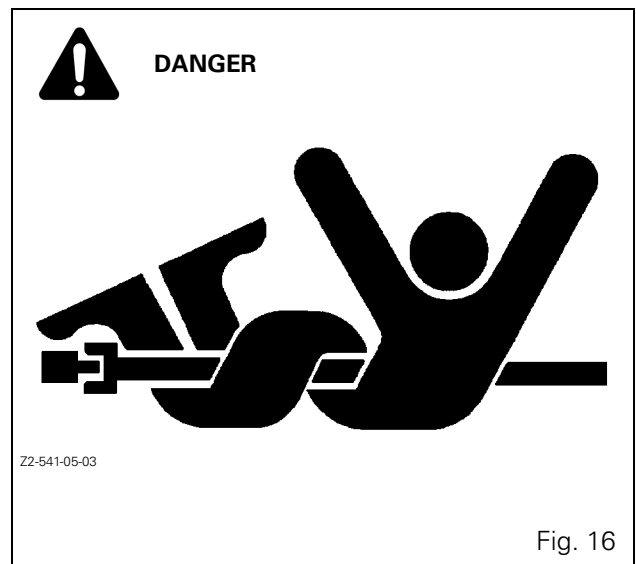

Fig. 16
- Ensure that all the PTO transmission shaft guards and shields are in place and check the presence of all safety decals (Fig. 16).